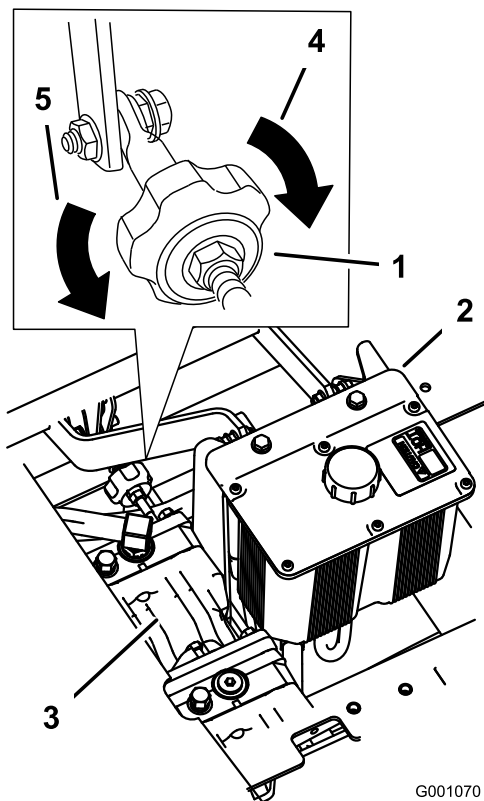

Figure 83
2. Adjust the pump rod length by rotating the knob, in the appropriate direction, until the wheel is still or slightly creeping in reverse (Figure 83).